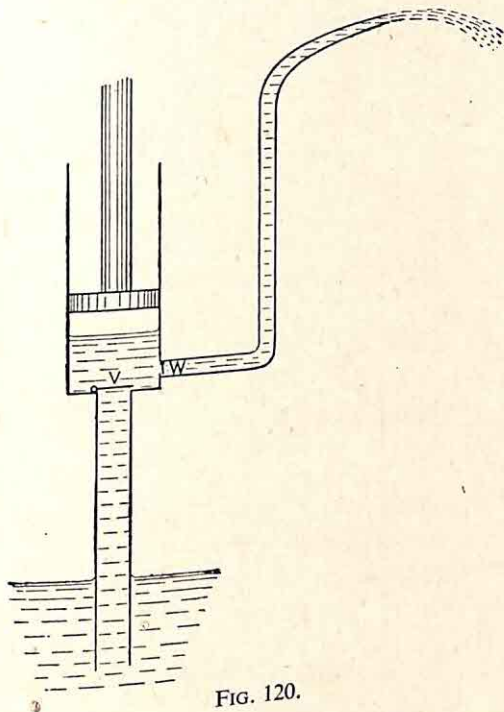

FIG. 120.
**The force pump** draws water from a well and then forces it to a considerable height (Fig. 120, p. 167). It differs from the lift pump in certain important respects ; the piston is solid, and the upper valve W is placed in the delivery pipe which is connected
The **force pump** draws water from a well and then forces it to a considerable height (Fig. 120, p. 167). It differs from the lift pump in certain important respects ; the piston is solid, and the upper valve *W* is placed in the delivery pipe which is connected